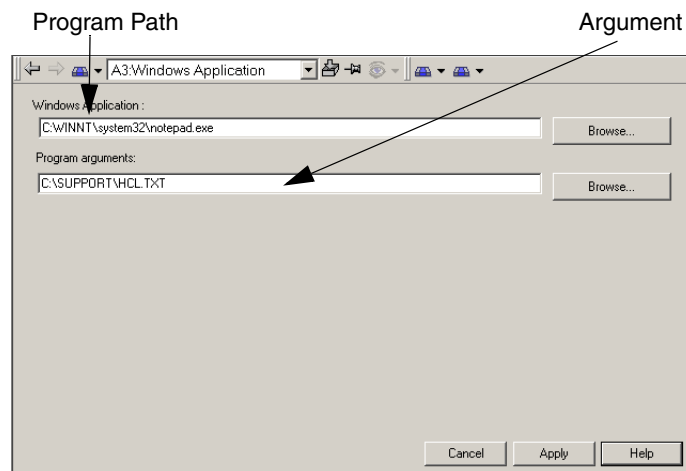

Figure 242. The Windows Application Aspect Dialog Box
2. Open the Windows Application aspect and its Config View. See Figure 242.
4. If the application takes arguments, enter these in the **Program Arguments** field (see Figure 242).